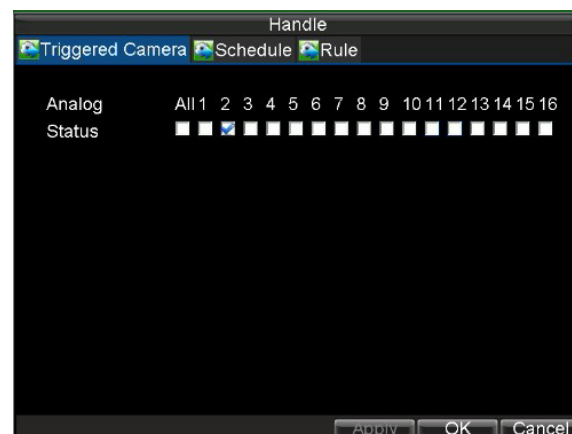

Figure 26. Rule Handle Menu
5. Enter Handle settings menu, as shown in Figure 26, select Triggered Camera tab.